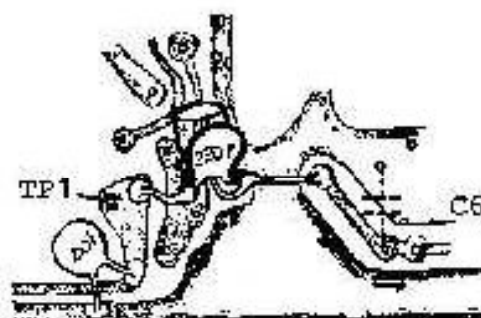

Figure 2
3. Remove the six (6) screws securing the PLL unit to the chassis and fold the unit over, to allow access to the foil side of the circuit board.
5. Install the parallel circuit consisting of the 220pf capacitor and the 470 $\mu$ h coil in its place. See figure 2.
6. Install the .001 $\mu$ f capacitor as shown in figure 2.